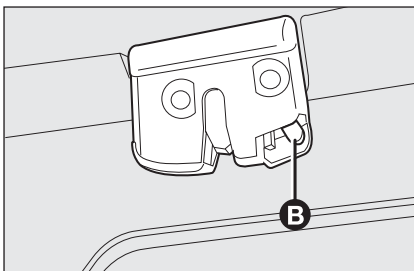

fig. 108
- ❑ to unlock the tailgate mechanically, working from the inside of the luggage compartment, use lever **B**-fig. 108.